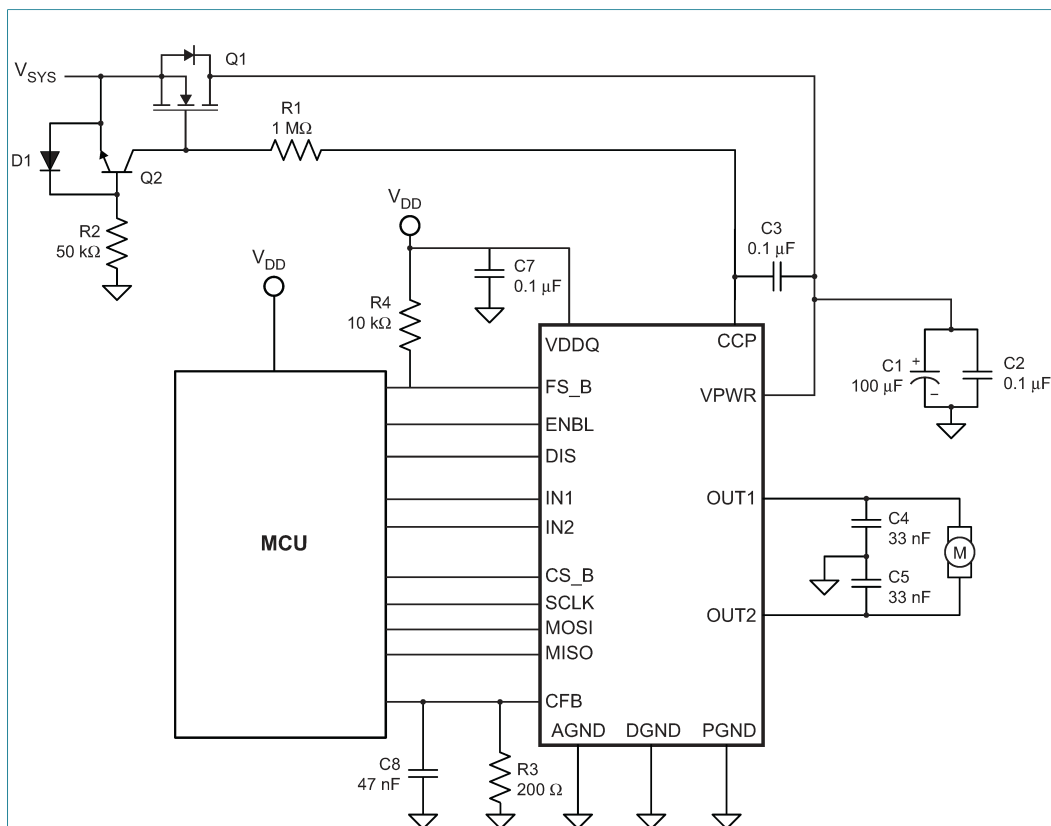

Figure 22. Simplified typical application schematic (Reverse battery protection with an external inverted N-channel MOSFET and operation with SPI)
3.0 A and peaks over 10.0 A. Figure 21 shows a typical simplified minimum application schematic without SPI interface to MCU and reverse battery protection through a diode. Figure 22 shows a typical simplified application diagram with reverse battery protection using an external N-channel FET driven by the CCP pin. This is useful for low battery voltage applications where diode drops could be significant. See Section 8.3.1 "Reverse battery" for details on reverse battery protection.